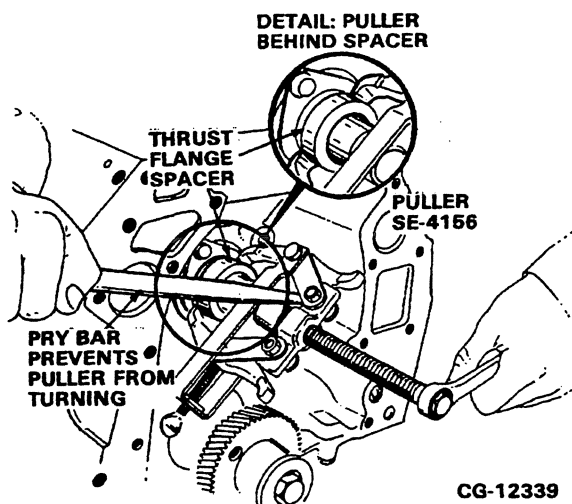

Figure 4.18. Removing Thrust Flange Spacer
7. Remove thrust flange spacer using SE-4156 Puller (Figure 4.18).